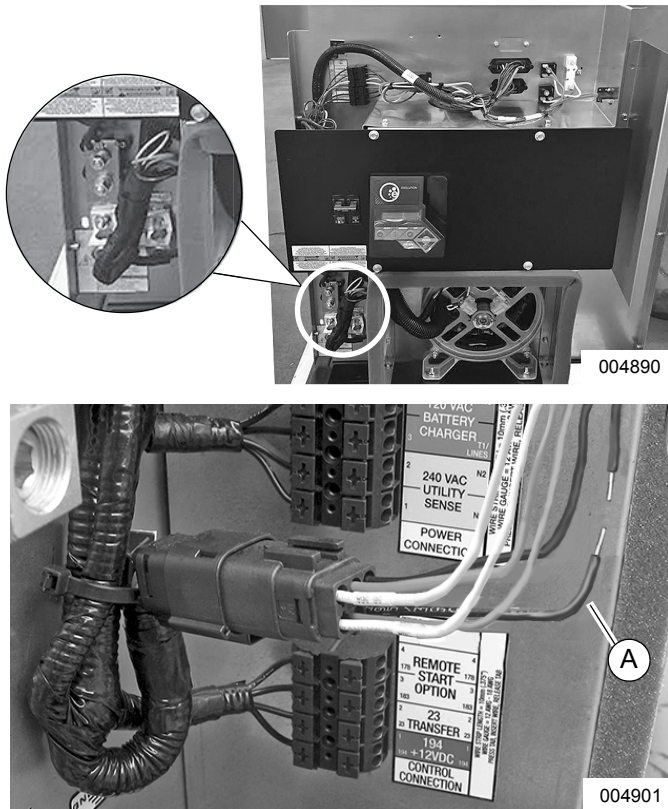

Figure 15 - Wire Preparation with E-Stop Installed
1. See Figure 15. Disconnect one black wire from the E-stop harness by removing butt splice connector on pin side of Deutsch connector.
2. Strip 3/8 in. (10 mm) of insulation from each end of wire (A).